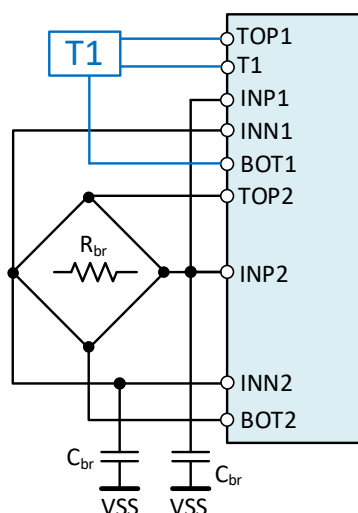

Figure 41. Dual Speed Resistive Bridge Input Configuration
- Dual Speed AFE with AOUT: both AFEs are used, one sensor bridge is connected to both front ends. AFE1 is setup for fast conversion, allowing fast response at lower accuracy. AFE2 is setup for slow conversion, generating a slower response at higher/typical accuracy, see Figure 41 for the needed connections of the bridge to the device. Description of operation of dual speed with the EVK is provided in section 5.3.1.6. Refer to the *ZSSC3281 Datasheet* document for a detailed description of this AFE operation mode.
For operating the Dual Speed mode, the EVK can be used with a specific setup of the SRB3 board: remove all jumpers from J6 and connect J3-1 with J6-4, and J3-4 with J6-2. With this setup the second bridge on the SRB is connected as in Figure 41 (temperature sensor can be external, or internal PTAT).